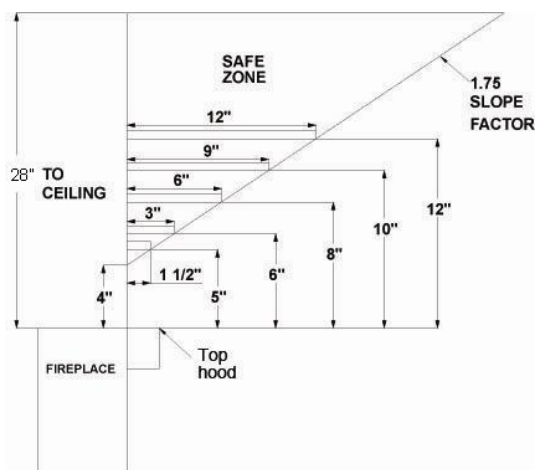

Figure11-Mantel and Ceiling Clearances
- C. Clearance from the fireplace hood to the ceiling should not be less than 28 inches. (See Figure 11)